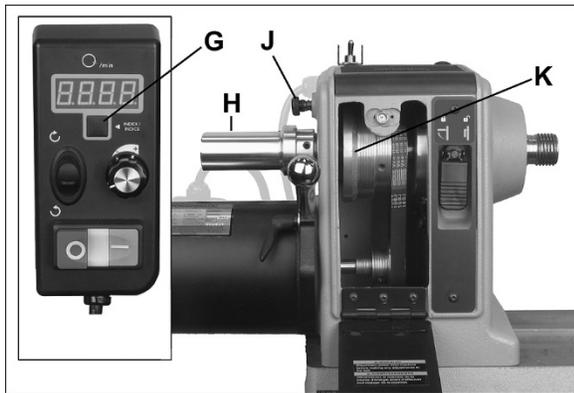

Figure 8-4: indexer
The indexer has 24 evenly spaced holes concentric to the spindle and is used to create evenly spaced features in a workpiece, while keeping the lathe spindle locked; for example, when cutting flutes on a spindle blank with a router, while the spindle blank is secured between lathe centers. Numbers 1 through 24 are inscribed on top sheave (K, Figure 8-4) for reference. When lathe is powered, however, the LED display can be used for rapid locating of index positions, as follows.
2. Push index button (G, Figure 8-4). The LED display will change from RPM setting to index setting.
3. Use handwheel (H) to rotate workpiece to desired position.
4. Push in index pin (J, Figure 8-4) and rotate workpiece slightly until pin engages hole. Then screw index pin (J) further into headstock to lock spindle.
6. Push index button (G) to set engaged index position at zero.
7. Unscrew index pin (J) to release spindle, then rotate workpiece until next desired hole shows on readout.